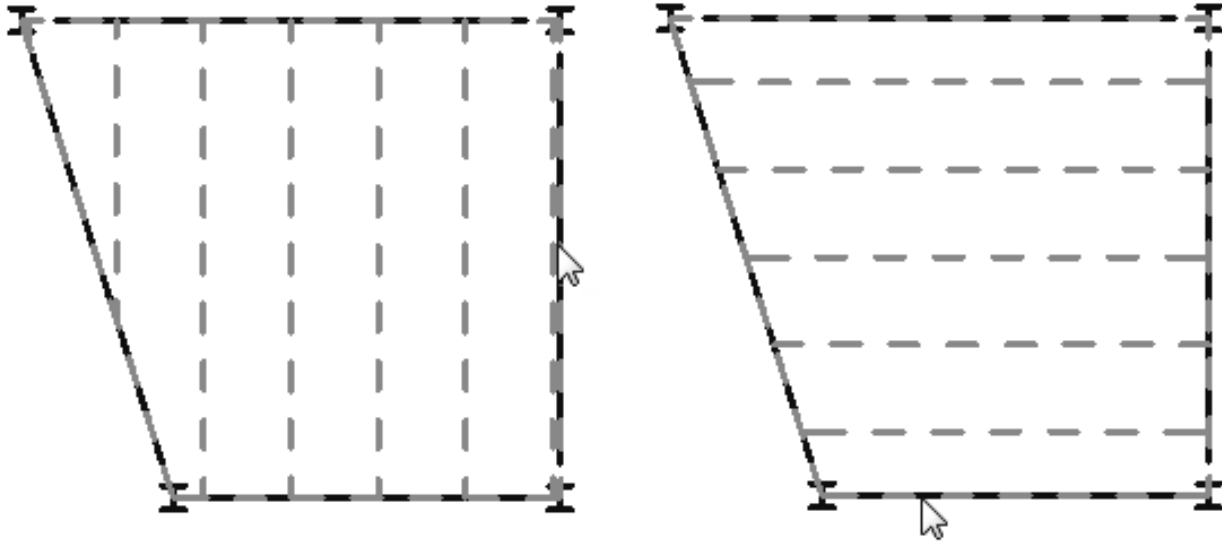

Figure 7–8
5. Move the cursor over an existing beam until the guide lines display in the correct area and direction, as shown vertically and horizontally in Figure 7–8. This can also identify angled lines.